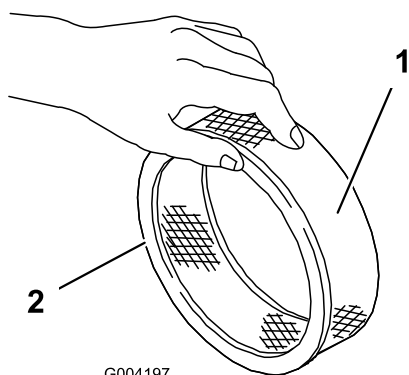

Figure 32
- Inspect the paper filter for tears, an oily film, and damage to the rubber seal (Figure 32).
- Carefully slide the foam pre-filter onto the paper filter (Figure 32).